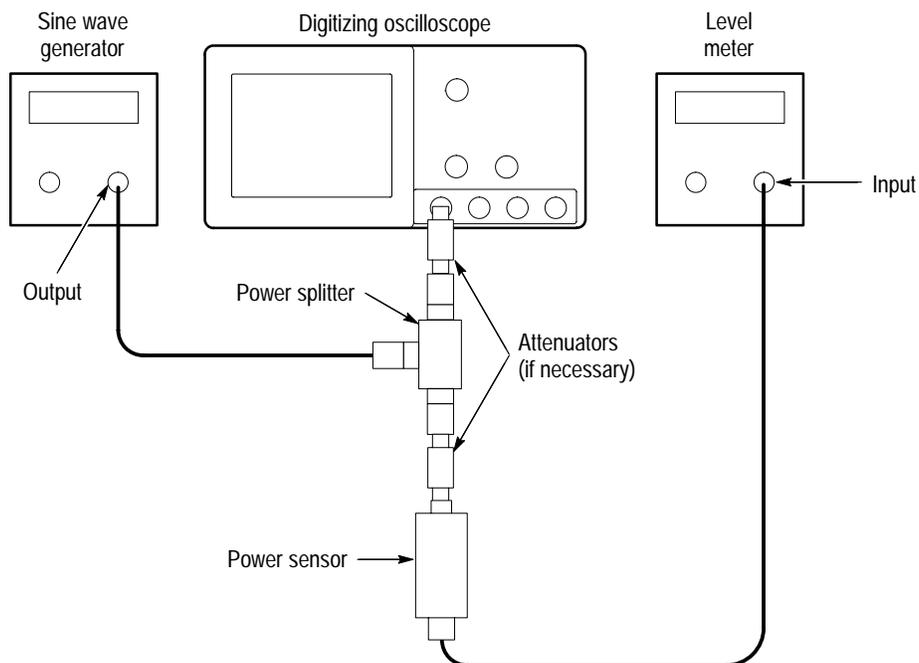

Figure B-8: Hookup for sine wave generator leveling
1. Connect the equipment as shown in Figure B-8.